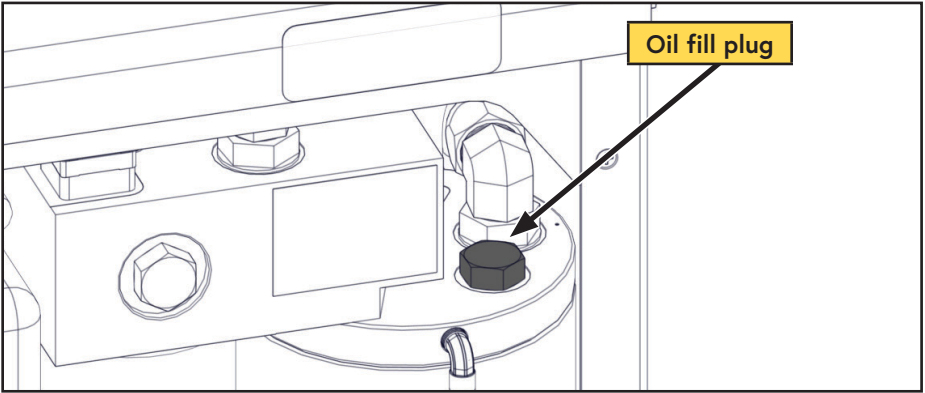

Figure 36 — Add compressor oil
- ☐ Remove the oil fill plug from the top of the AOST (Figure 36).